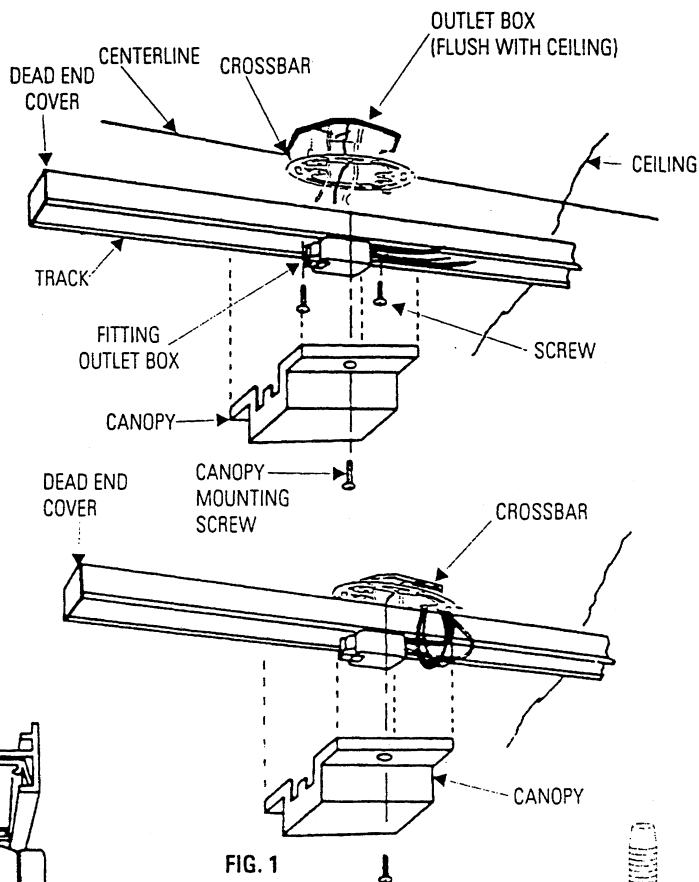

FIG. 1
1. Attach CROSSBAR to OUTLET BOX using FLAT SCREWS as shown in Fig. 1.